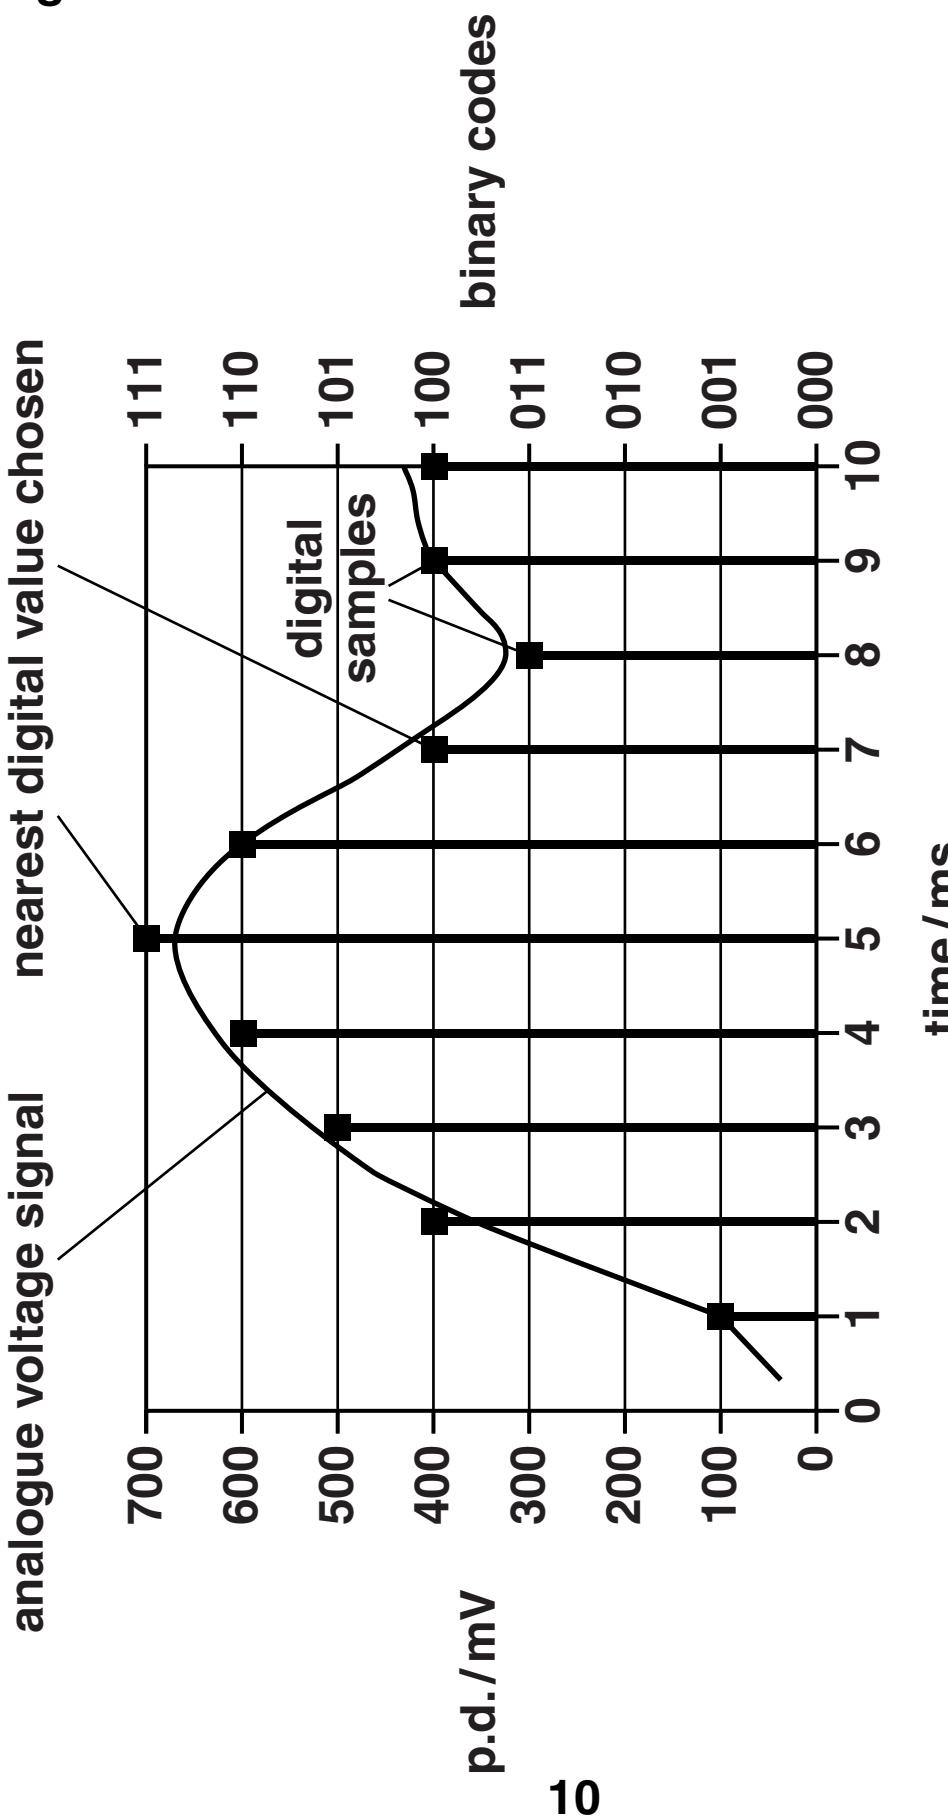

FIG. 5.1
- 5 Fig. 5.1 shows an analogue voltage signal varying in time.
- (a) Use information from Fig. 5.1 to calculate the number of bits per second used for the binary coding.**
- (b) Fig. 5.1 shows that the digital samples can differ from the original analogue signal.**